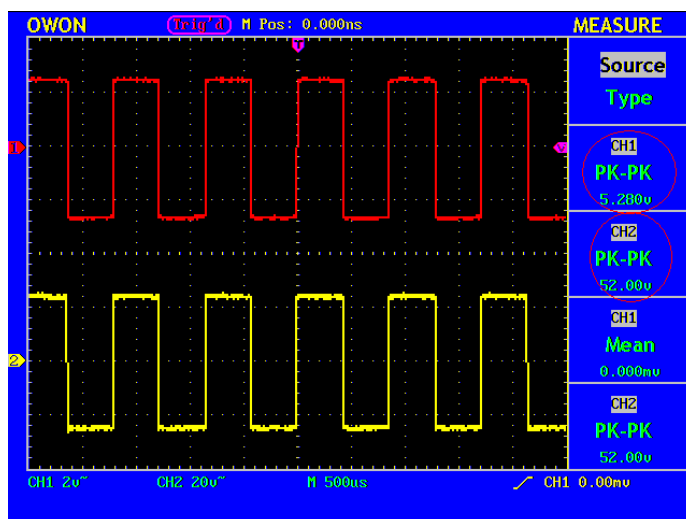

Fig.57 Wave Form of Gain Measurement
9. Get **Pk-Pk** readings of Channel 1 and Channel 2. (see Fig.57).